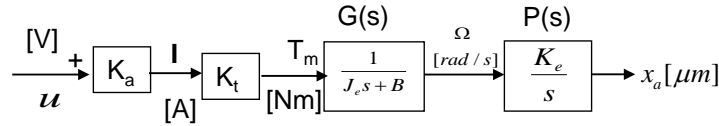

Figure 1: Open loop dynamics of a ball screw system with an encoder.
1. (10) A ball screw drive system with the following parameters need to be designed: Table mass= 500kg; Maximum Workpiece mass: 500kg; Maximum Feed cutting force: 4000N, Maximum normal cutting force acting perpendicular to the table: 1000N. Ball screw with a mean diameter of  $d_m = 50mm$ , pitch length of 10mm, and its inertia with a mounted gear is  $J_l = 0.005kgm^2$ . Coulomb Friction coefficient between the table and guides -  $\mu_{gf} = 0.05$ . The thrust bearing with a mean diameter  $d_b = 50mm$  and preload  $F_p = 200N$  with a friction coefficient of  $\mu_b = 0.004$  is used. The equivalent Viscous friction is  $B = 0.01Nm/(rad/s)$ . Use a speed reduction with a gear ratio of 2:1. The motor shaft and pinion has a combined inertia of  $J_m = 10^{-4}kgm^2$ . The motor must deliver a maximum translational acceleration of  $\ddot{x}_{max} = 5m/s^2$  and a velocity of  $\dot{x}_{max} = 0.5(m/s)$  at the table. Identify the peak and continuous torque requirements of the servo motor.
2.(10) Construct the open loop transfer function of the physical servo drive system by considering the mechanical drive shown in Figure 1. The motor shaft mounted encoder gives 10,000 impulses per revolution. Assume that the equivalent inertia is  $J_e = 0.001kgm^2$  and  $B = 0.005Nm/(rad/s)$ . The voltage command ( $u[V]$ ) received from the computer generates current on the armature of the motor ( $I$ ). The combined electrical (current-voltage amplifier and electrical winding of the motor) has a gain of  $K_a = 30[A/V]$ , and the torque constant of the motor is  $K_t = 0.5[Nm/A]$ .